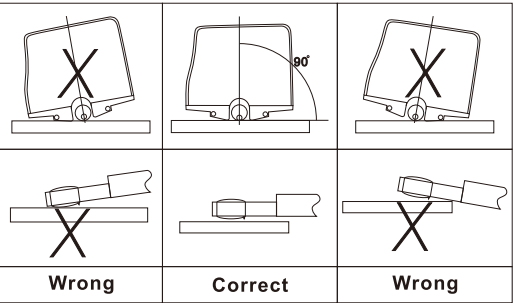
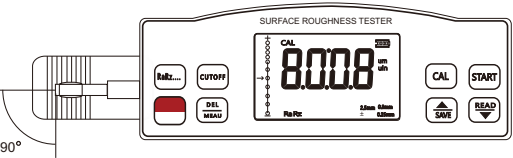

Fig.4-1
Fig.4-2
- H. Refer to Figure 4-1 and Figure 4-2 to place the instrument correctly, stably and reliably on the surface to be measured.
- I. Refer to Figure 4-2 , the sliding trail of the sensor must be vertical to the direction of process line of the measured surface.